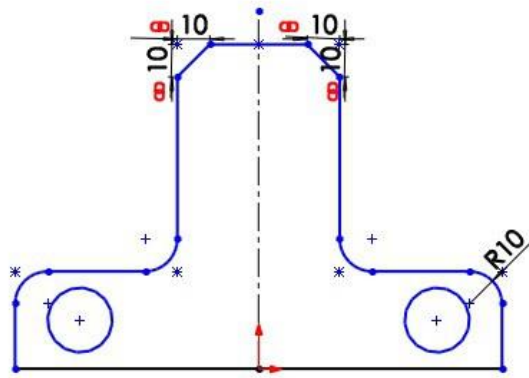

Figure 3-23 Final sketch after creating chamfers
- Apply chamfers, refer to Figure 3-23.
5. Select the second set of entities to be chamfered and then exit the PropertyManager by choosing the **OK** button. Figure 3-23 shows the final sketch after creating the chamfers.